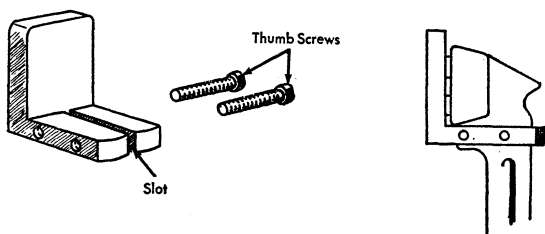

Figure 76. Type Soldering Fixture
A type soldering fixture (Figure 76) may be used to hold a type slug in place, or to guide it into proper position during resoldering. It is not necessary to remove the type
- a. Place the soldering fixture on the type bar as shown in Figure 76, and tighten the thumb screws securely.